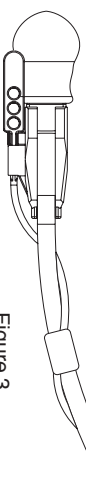

Figure 3
4. Secure the wire to the boom with Velcro One Wrap® strips—*see Figure 3*.